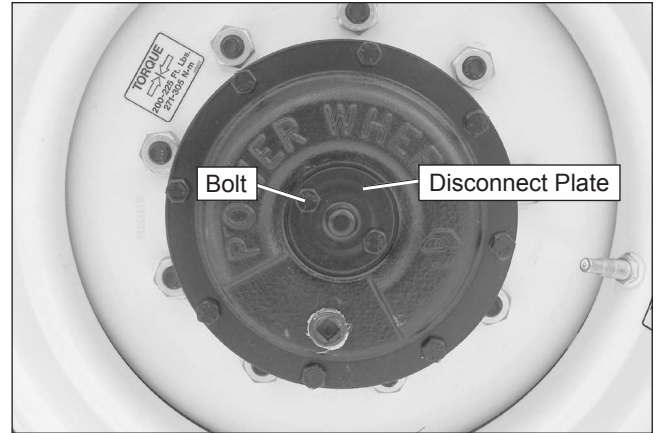

Figure 10.6 – Drive Wheel
8. At each drive wheel, remove the two bolts from the disconnect plate (refer to Figure 10.6). Turn the plate over so the nipple points inward. Reinstall the two bolts.